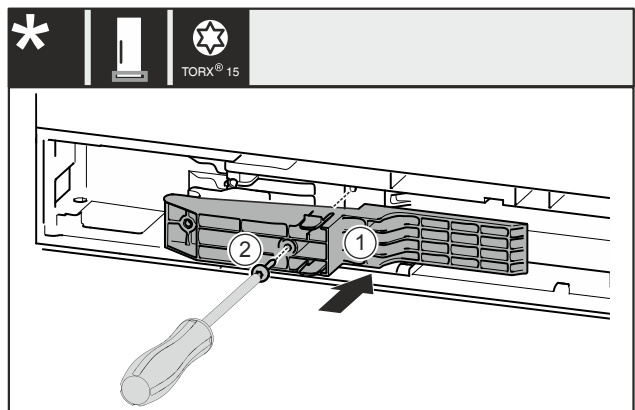

Fig. 52 \*
- ▶ Insert adapter Fig. 52 (1) in the recess on the handle side.\*
- ▶ Tighten screw Fig. 52 (2) with screwdriver.\*